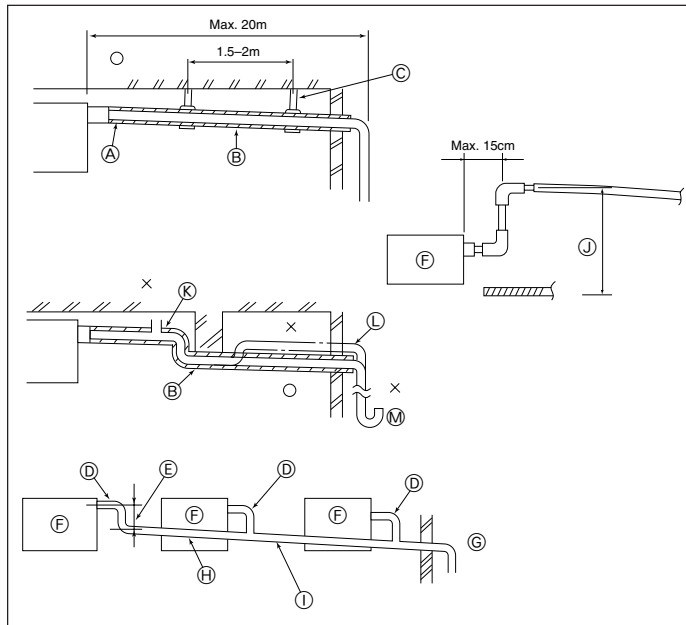

Fig. 3-4
3.4. Drainage piping work (Fig. 3-4)